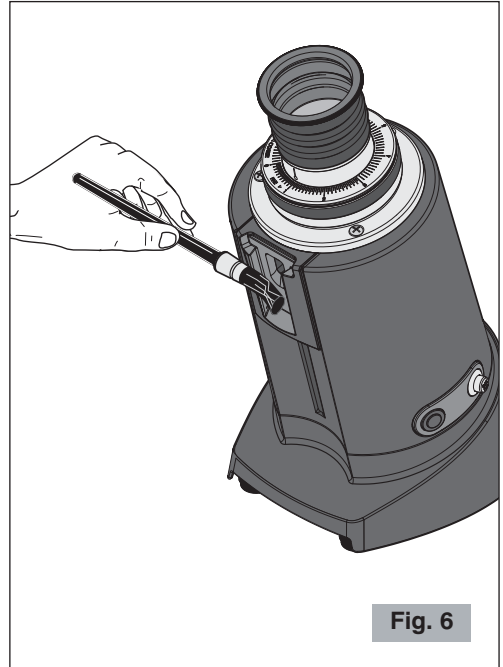

Fig. 6
- Use the brush supplied (12 Fig. 2) to clean the most hidden areas inside (see Fig. 6).